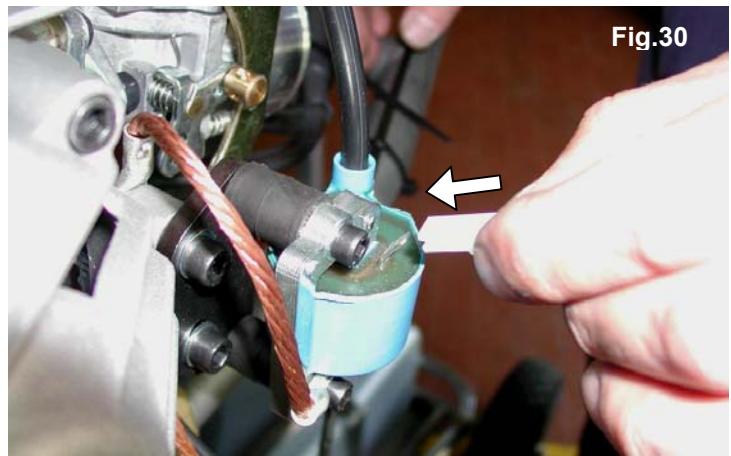

Fig.30
3.8.4 CONNECT THE COIL CABLE FROM THE POWER PACK TO THE TERMINAL ON THE COIL (SEE FIG. 30).